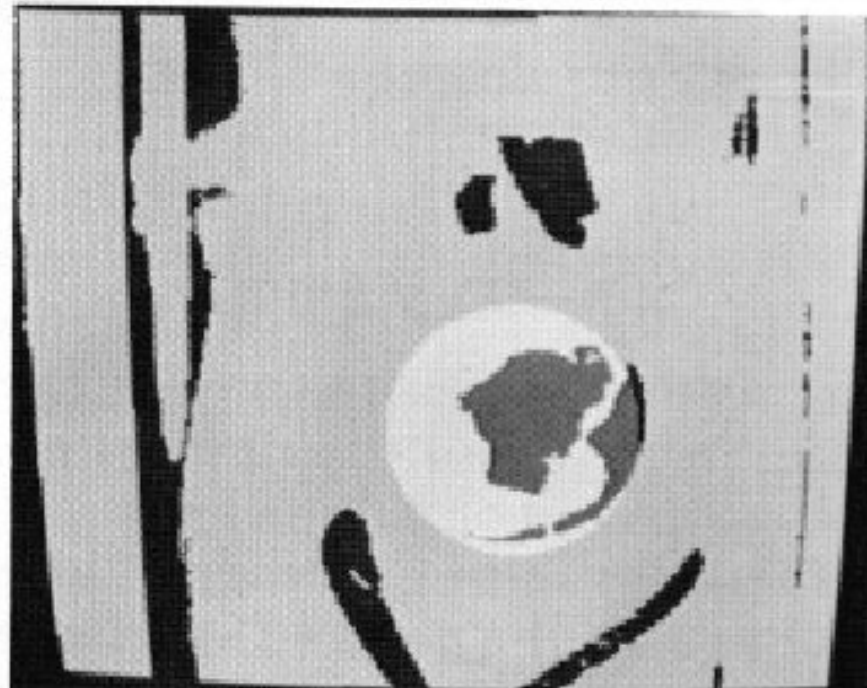

Figure 8 - Video image of a plugged bottle neck.
Step 5. Window #1 has been set up as a circle and calibrated to the minimum neck width spec. This window is placed precisely over the center of the neck using the XY-float feature described in steps 3 and 4. The area of bright plastic inside the window is measured and compared against preset Hi/Lo limits. If the area is within the Hi/Lo acceptance range then the bottle is accepted. Otherwise it is rejected. Figure 8 shows an image of a typical rejected bottle neck.